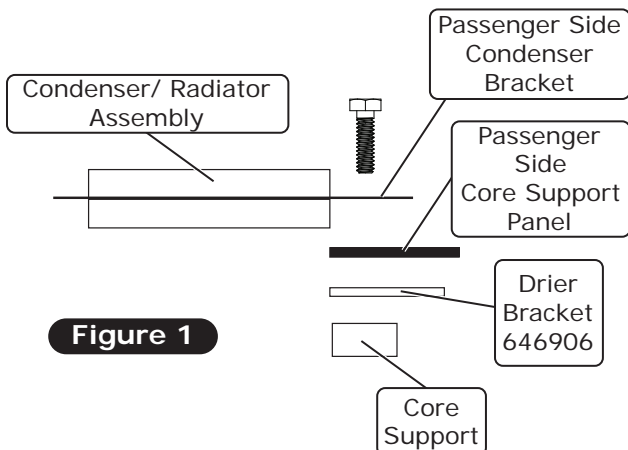

Figure 1
2. From the engine side, install the drier assembly onto the passenger side of the core support (See Photo 2, below). Slide the drier assembly in between the core support and the passenger side core support panel. Align the (2) drier bracket holes with the (2) lower core support bracket mounting holes (See Figure 1, below). Use (2) full threaded studs to hold the drier bracket in place (See Photo 3, below).